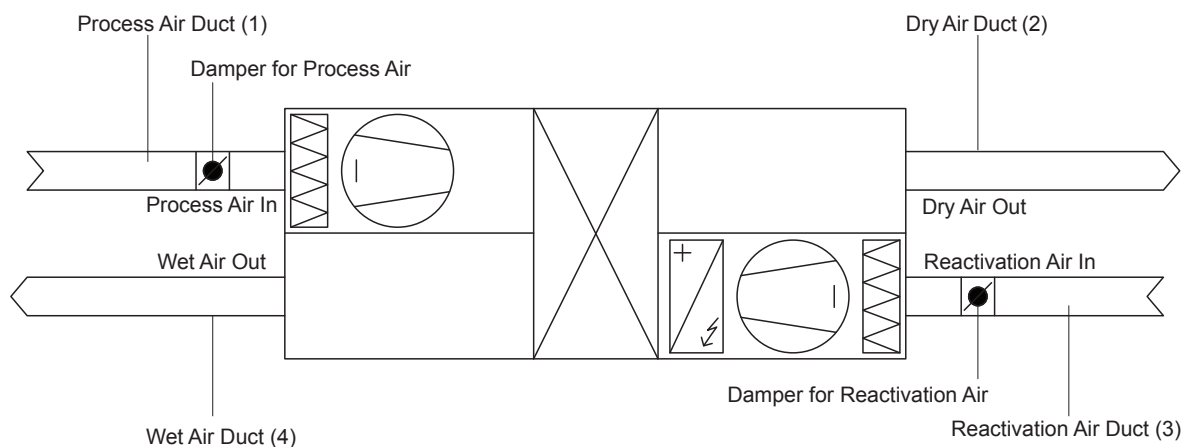

Fig. 6: Example of Damper Locations and Air Balancing setup
- a. Add a manually set damper to the process air duct, as illustrated in Fig. 6. The damper must be adjusted to achieve the appropriate air volume in CFM, as measured with suitable anemometers.
- a. Add a manually set damper in the regeneration air duct, as illustrated in Fig. 6 above. The damper needs to be adjusted to achieve the appropriate air volume in CFM, as measured with suitable anemometers.